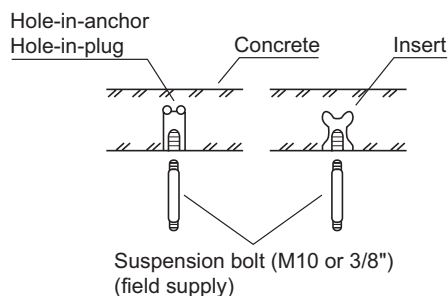

Fig. 2-127
- (3) Depending on the ceiling type:
- Insert suspension bolts as shown in Fig. 2-127